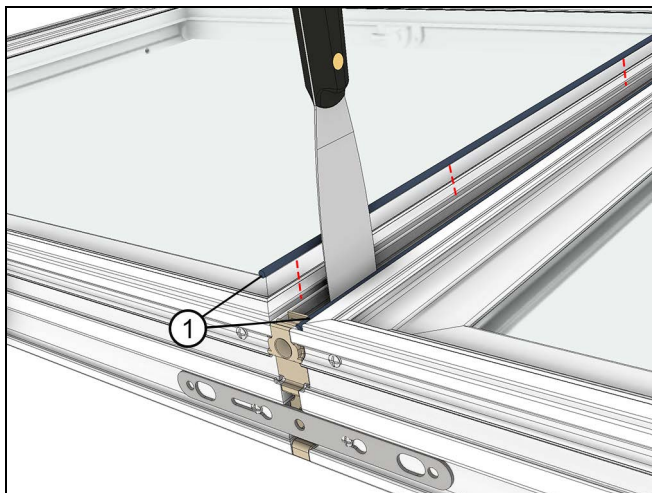

Figure 10
6. Apply kerf weather strip into exterior accessory kerf by using a thin putty knife. Kerf weather strip should extend past end of mull cover. See Figure 10.